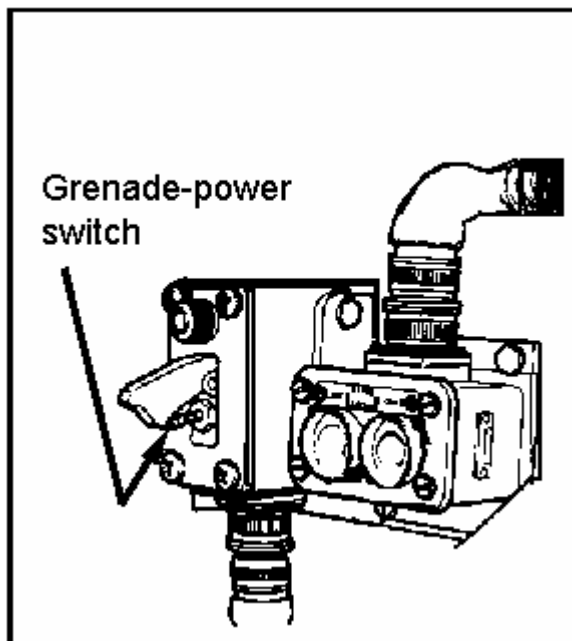

Figure 052-225-1101-1
- a. Ensure that the vehicle's master-power switch and the grenade-power switch are set to the OFF position (Figure 052-225-1101-1).